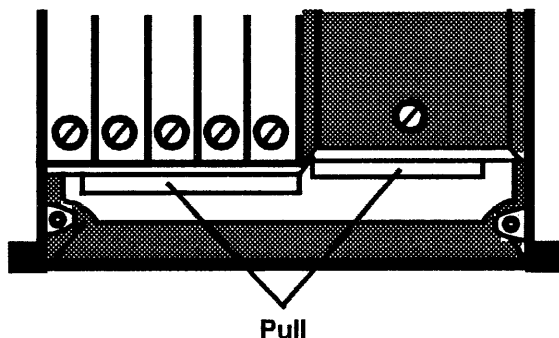

Figure 4. Fan Assembly
4. Remove the fan assembly (Figure 4).